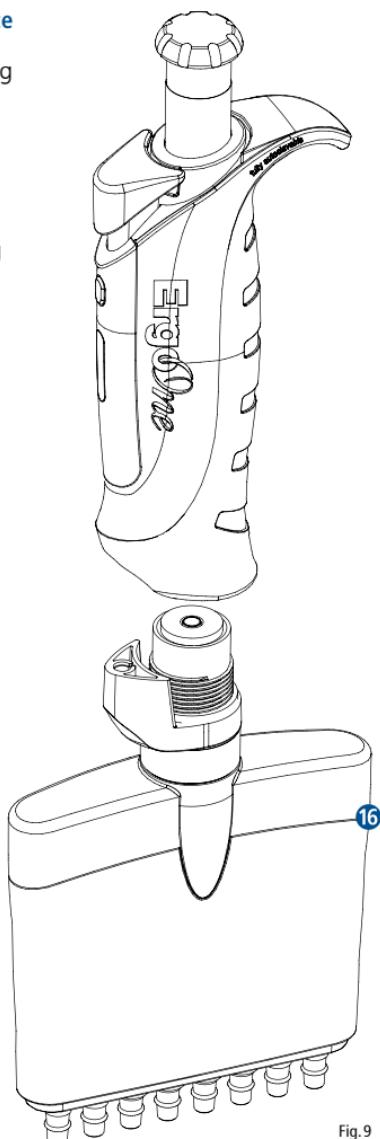

Fig.9
- Fully unscrew the lower housing ⑯ by turning clockwise (Fig. 9).
- To remove the tip ejector ⑤ squeeze with finger and thumb on either side of the tip ejector, just below the ejector fixing ⑯. This will allow you to slightly lift the ejector fixing ⑯ which will release the tip ejector ⑤.